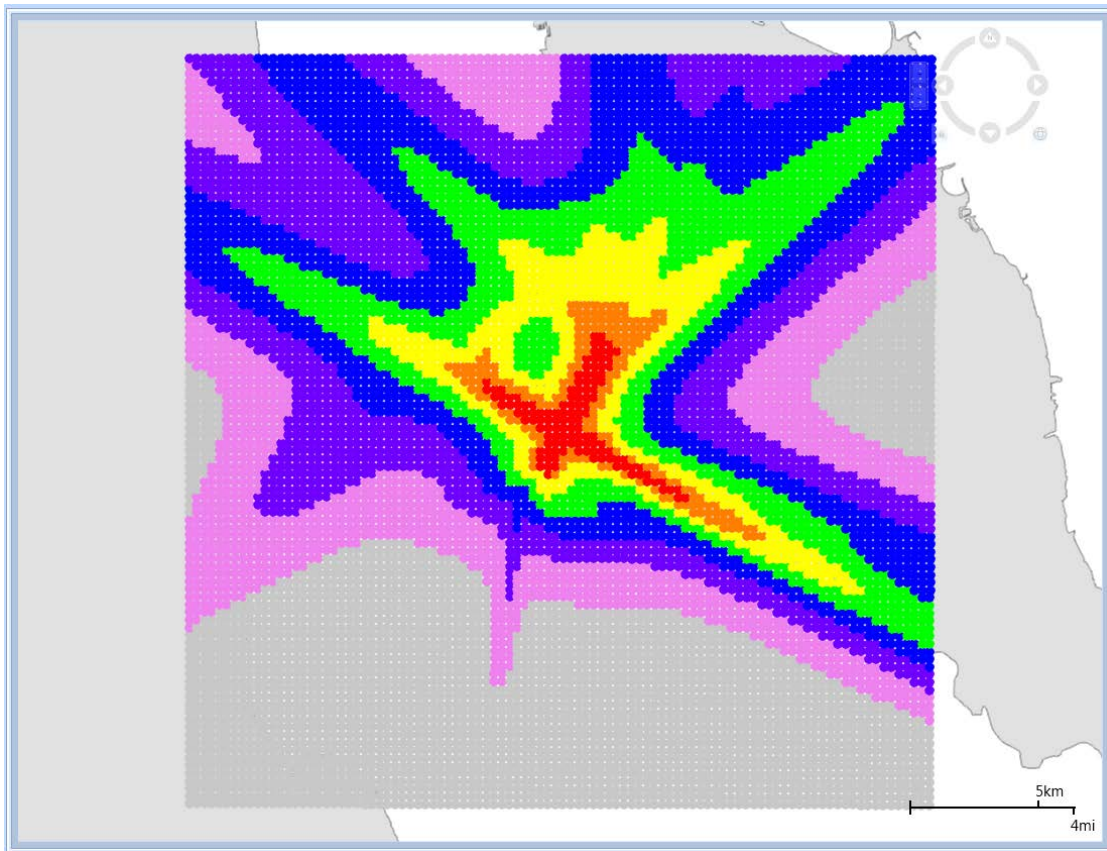

Figure 5-24 Sample Receptor Set Layer
3. The receptor set layer is displayed on the map (Figure 5-24) and in the *Layers* manager.